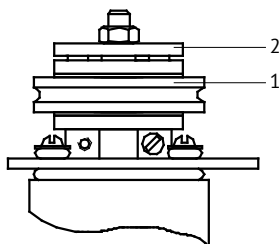

Fig. 8.
6.3 Check the operation of the friction clutch. Pulley 1 (Fig. 8) shall rotate slightly relative to the top of the host unit 2.